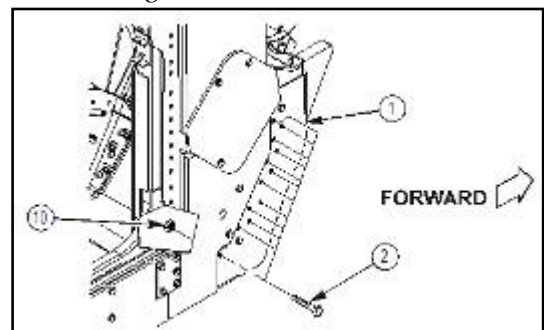

Figure 37a
31. Remove twelve capscrews (2) and locknuts (10) from vehicle body (1) as shown in figure 37a.